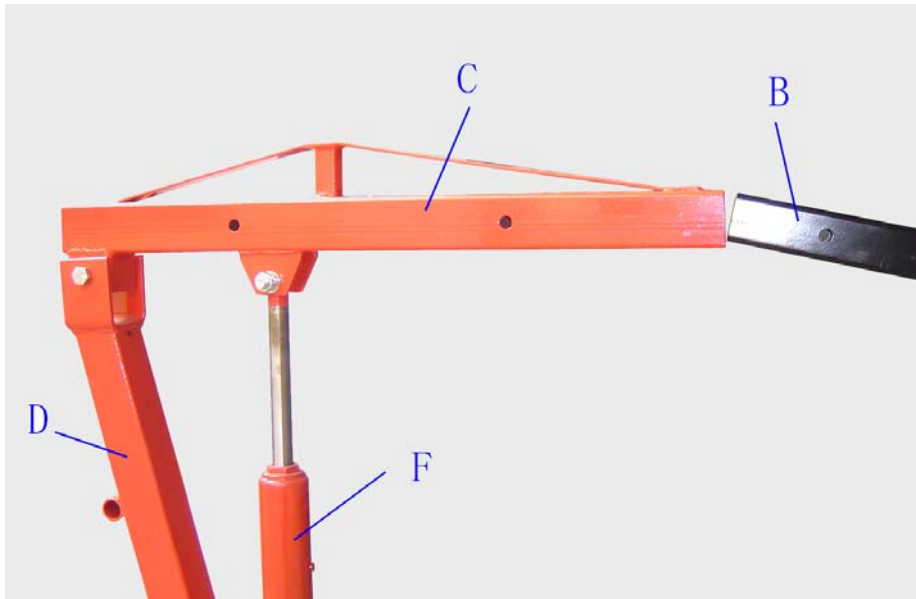

Fig. 7
Insert the Boom Extension (B) into the Boom (See Fig. 7).